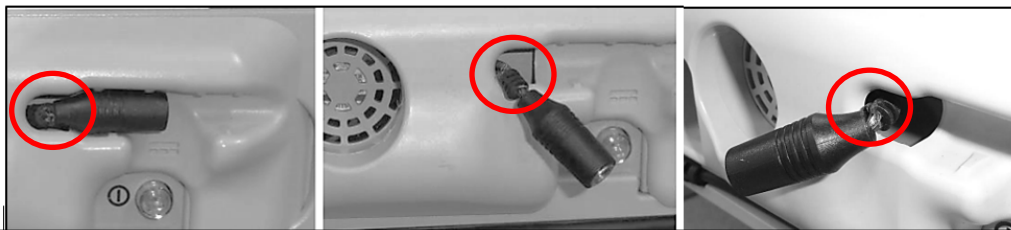

Figure 2: Examples of Damage to the connector plug
- a. Inspect the power connector plug at the back of the PES for any damage. See examples of frayed or damaged cables/cords as shown in Figure 2.